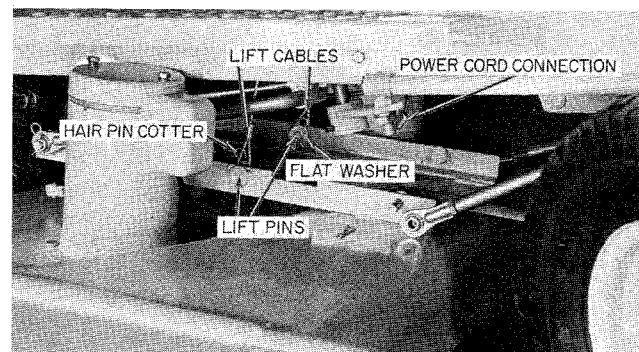

Figure 12
9. Attach the remaining suspension arms in similar fashion. (See Figure 12.)
pins on the mower deck. Secure each with a plain washer and hair pin cotter. (See Figure 12.)